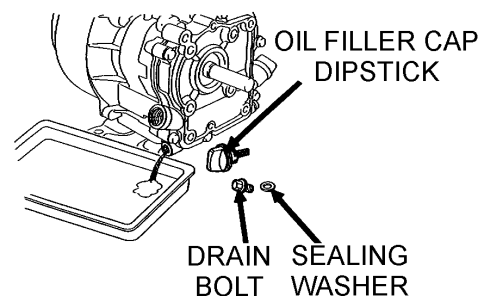

Figure 16. Engine Oil (Draining)
2. Drain the engine oil when the oil is warm after operation. Remove the oil filler cap then unscrew the engine oil drain plug located at the base of the engine. Drain the old oil into a pan (Figure 16).
1. Remove and clean the spark plug (Figure 16).